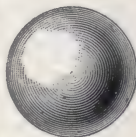

FIG. 59.
**103.** A sphere (Fig. 59) is a solid bounded by a uniformly curved surface, every point of which is equally distant from a point within, called the center.